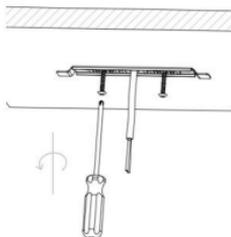

Fig. 1
- Fix the bracket to the mounting surface using the screws and plugs provided (see Fig. 1)